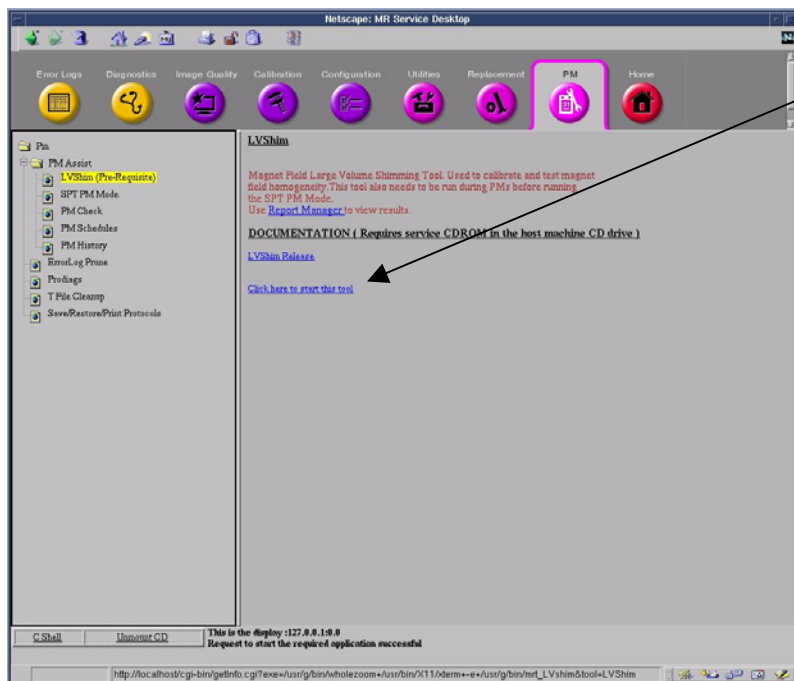
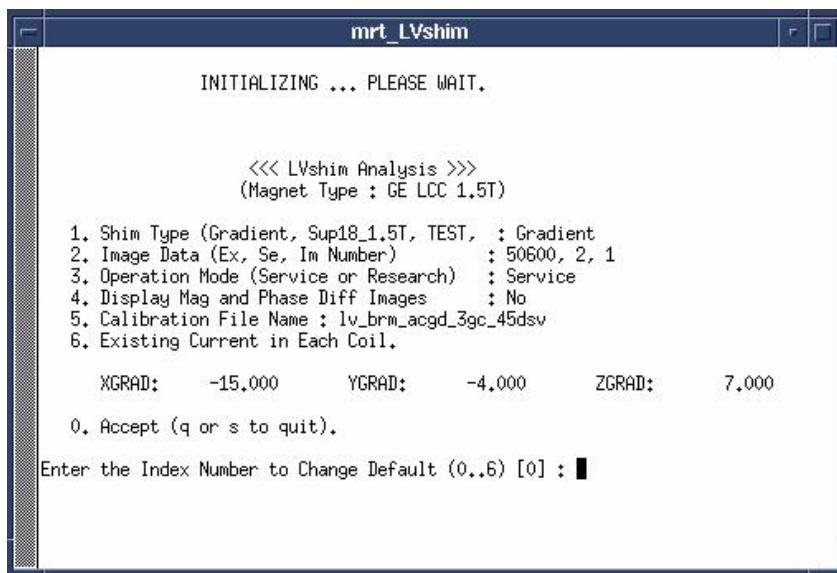

Figure 16a
Figure 17
2. Click on the link: "Click here to start this tool" (shown in Figure 16a) to start the LV Shim tool and open the LVShim page shown in Figure 17.